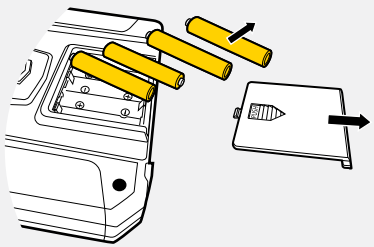

Fig. 11
1. Turn the »Transmitter off, open the battery compartment and remove the batteries (see [Fig. 11]).